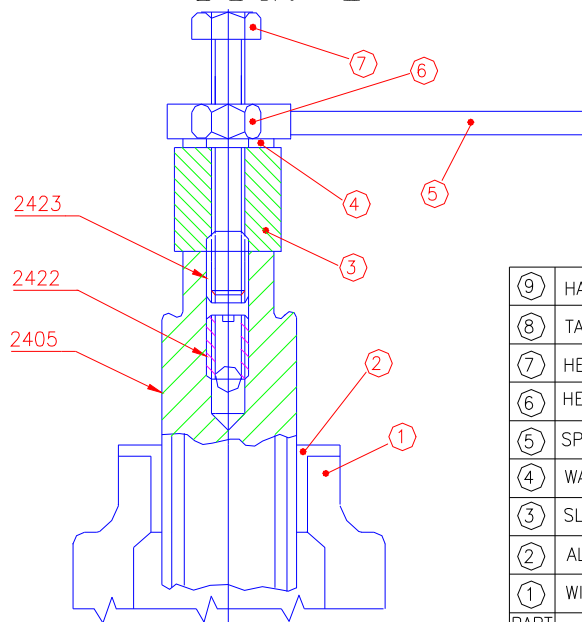

FIG. 2
- (iii) Mount the spacer/sleeves (3), washer(4) Hex screw M6(7) with nut (8) as shown in RDSO Drg.No. SK. EL.. 3850.Fig.(2)Screw the M6 screw on to the roll pin. continue to tighten the nut using a spanner (5) Further tightening of the nut after it touches the washer, results in the pulling out of the roll pin which ultimately comes out as per Fig.2.